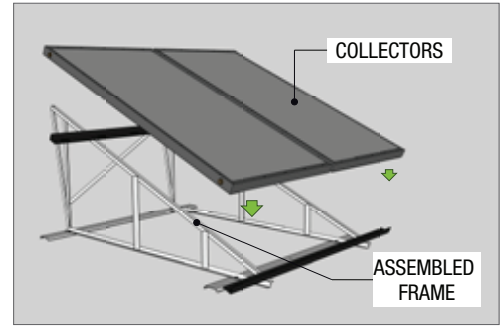

Fig 4
7. Position the collector/s between the mounting rails (Fig 4)